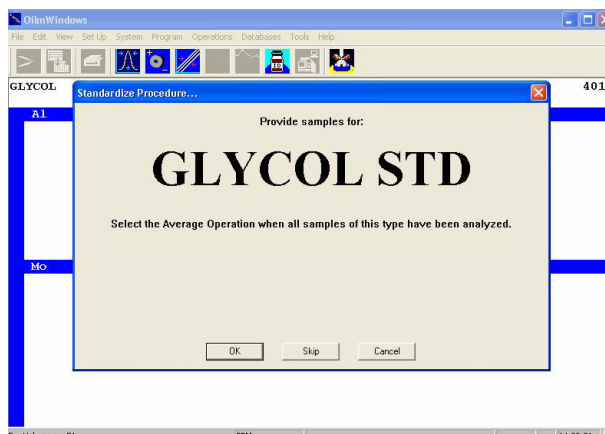

Figure 2-22, Second Coolant Program Standardization Point
3. Following the procedure set forth in Section 2.3, burn three samples of D.I. Water and press function key 6 (F6), click the Average icon or select Operations/Average from the pull down menu to average them. To make a printout of the measurements and their average, press the print icon. Automatically, the next dialog box will appear providing instructions to make measurements of the Glycol standard, Figure 2-22.